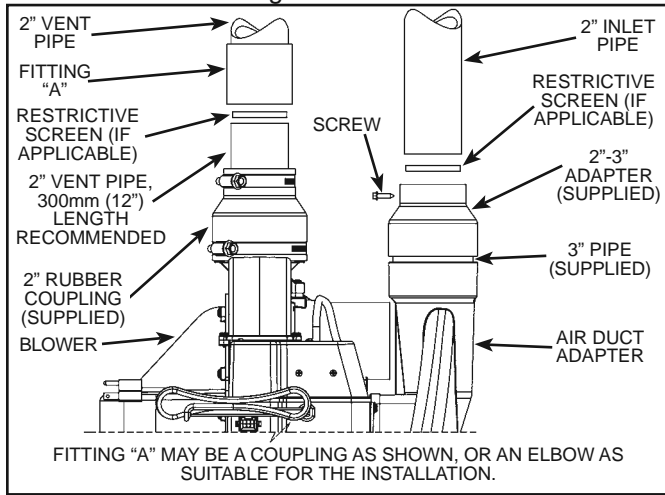
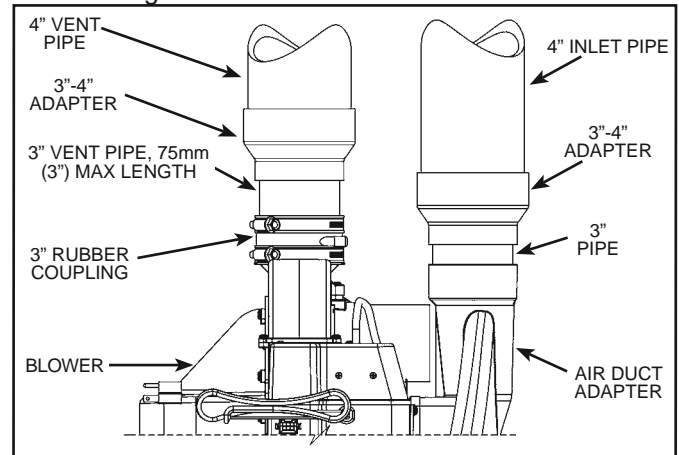

Figure 38.
Figure 41.
Note: If a vent screen in the air intake vent system is located at the blower, this joint should not be cemented but secured with a screw to allow servicing (see Figure 38 through Figure 41).
4. Make sure that the plastic tubing is still attached from the air pressure switch to the port on the blower motor housing. Make sure the plastic tubing is not folded anywhere between the pressure switch and the blower motor housing (see Figure 38 through Figure 41).
Important: These connections must be properly seated and tightened to prevent the leakage of flue gases into the area. See Figure 38 through Figure 41.
Figure 38 shows the configuration for heaters direct connected to 2" venting.
Figure 41 shows the configuration for heaters connected to 4" venting.
The restrictive screen (see Figure 37) and the air intake piping should be secured in place with a screw. To prevent damage to the equipment, first position the restrictive screen in place, then drill a pilot hole suitable for the screw being used. The screen must be fully seated and the screw should not interfere with the airflow through it. Once the pilot hole is drilled, place the intake pipe in position and secure in place using the screw (see Figure 38 through Figure 41). Do not use glue to secure this joint in order to allow the screen to be removed for cleaning. The screen in the exhaust piping should be located close to the blower and all exhaust piping joints should be glued.
If the installation requires restrictive screens (see Figure 37) the restrictive screens should be installed near the blower as shown in Figure 38 through Figure 41. If the restrictive screens are installed near the blower, it is recommended that debris screens (see Figure 37) be installed at the terminations.